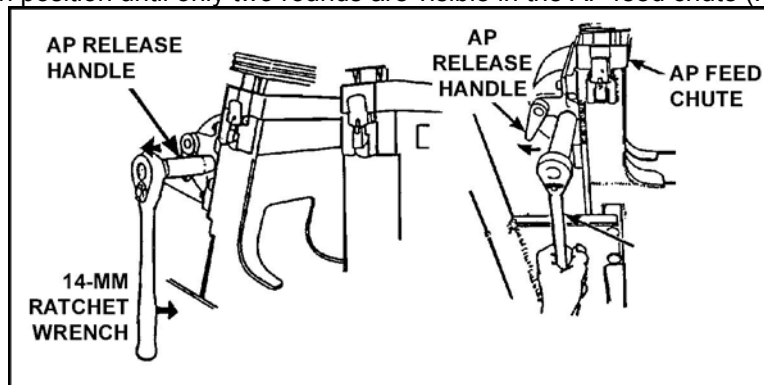

Figure 5. AP release handle.
- (1) Put the 14-mm ratchet wrench on the AP ammunition forwarder, with the wrench handle to the right.
- (2) Put upward pressure on the 14-mm ratchet wrench and pull the AP release handle to the left.
- (3) Hold the AP release handle to the left while moving the ratchet wrench to the straight down position until only two rounds are visible in the AP feed chute (Figure 5).